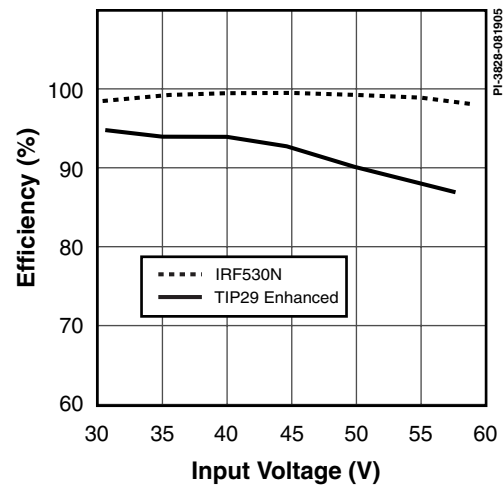

Figure 5. Pass-Switch Efficiency.
- Low cost bipolar pass-switch: 87% efficient (Figure 5)